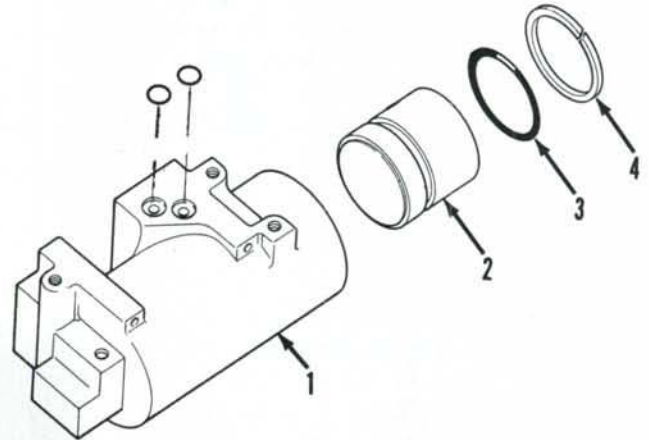
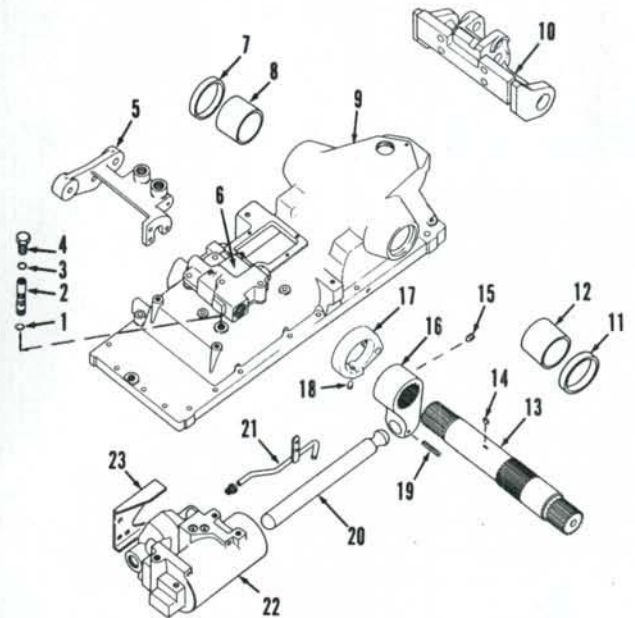
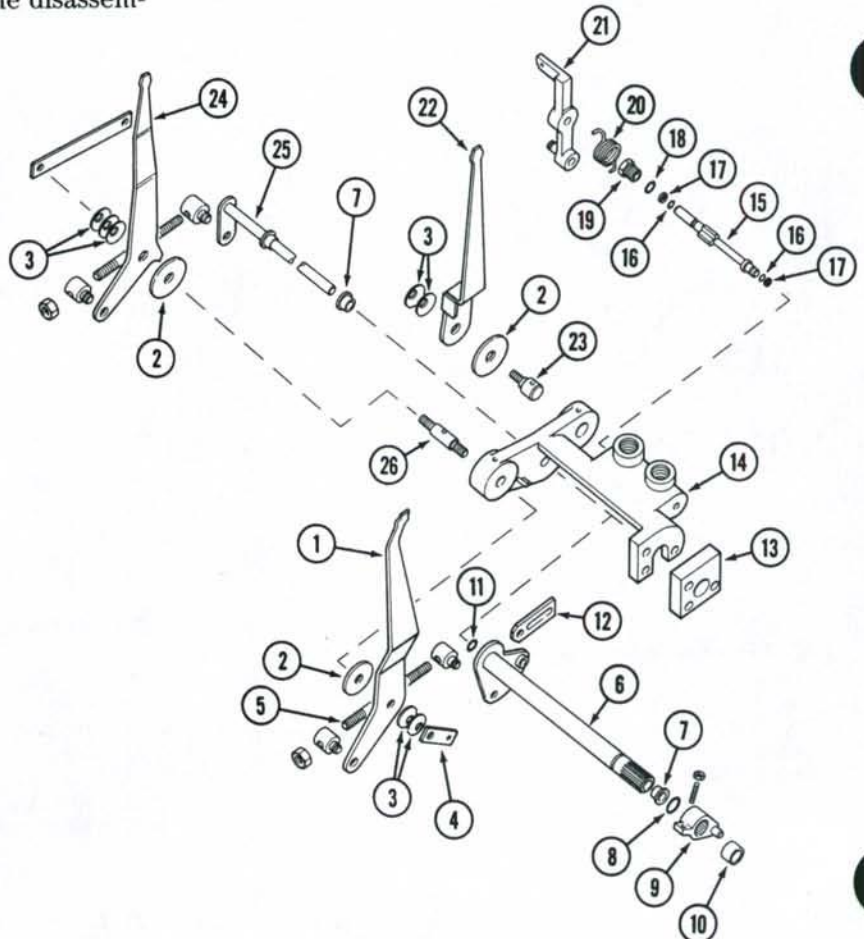

Fig. 166—Exploded view of work cylinder.
Fig. 167—View of hydraulic lift housing and relative components.
Fig. 168—Exploded view of typical raise rate valve and control lever arrangement.
If not already removed, remove cushion (safety) valve (2—Fig. 167) from cylinder (1—Fig. 166). The cushion relief (safety) valve is set at the factory to 2500 psi (17238 kPa). Do not attempt to disassemble or adjust this valve. Bump cylinder (1) on a block of wood and move piston (2) to open end of cylinder. Remove piston (2) with "O" ring (3) and back-up ring (4) from cylinder. Inspect piston and cylinder bore for
Use all new "O" rings and reassemble action valve and control valve to cylinder, then reinstall the cylinder and valve assembly into lift housing (9—Fig. 167). Cushion relief (safety) valve (2) can be installed in cylinder through hole in lift housing. Reinstall lift housing as outlined in paragraph 137 or 138.
140. R&R AND OVERHAUL. To remove the raise rate valve (5—Fig. 167), first remove hydraulic lift housing as outlined in paragraph 137 or 138. Disconnect adjusting rods (5—Fig. 168) from control shafts. Disconnect internal linkage as necessary and remove draft control shaft (25) and position control shaft (6). Unbolt and remove raise rate valve assembly. Remove adjusting arm (21), return spring (20) and plug (19) with "O" ring (18). Remove valve spool (15) with "O" rings (16) and back-up rings (17). Inspect raise rate valve spool and bore in valve body for scoring or excessive wear and renew parts as required.
141. REMOVE AND REINSTALL. To remove the rockshaft (13—Fig. 167), first remove hydraulic lift housing as in paragraph 137 or 138. Then, remove work cylinder and valve assembly as in paragraph 139. Disconnect and remove sensing linkage as required. Disconnect link from actuating hub (17). Remove retaining bolts and washers from both ends of rockshaft. Place marks on lift arms in alignment with timing marks on ends of rockshaft. Remove both lift arms. Loosen set screw (15) in bell crank (16). Loosen set screw (18) in actuating hub (17). Slide actuating hub off the Woodruff key (14) and remove the key. Pull rockshaft (13) out left side of housing and remove actuating hub and bell crank. Remove oil seals (7 and 11) and bushings (8 and 12) as required.